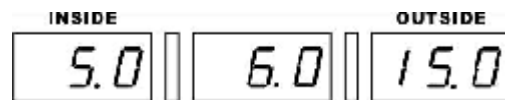

Fig 15
- I The control panel will display the information as shown in Fig 15.